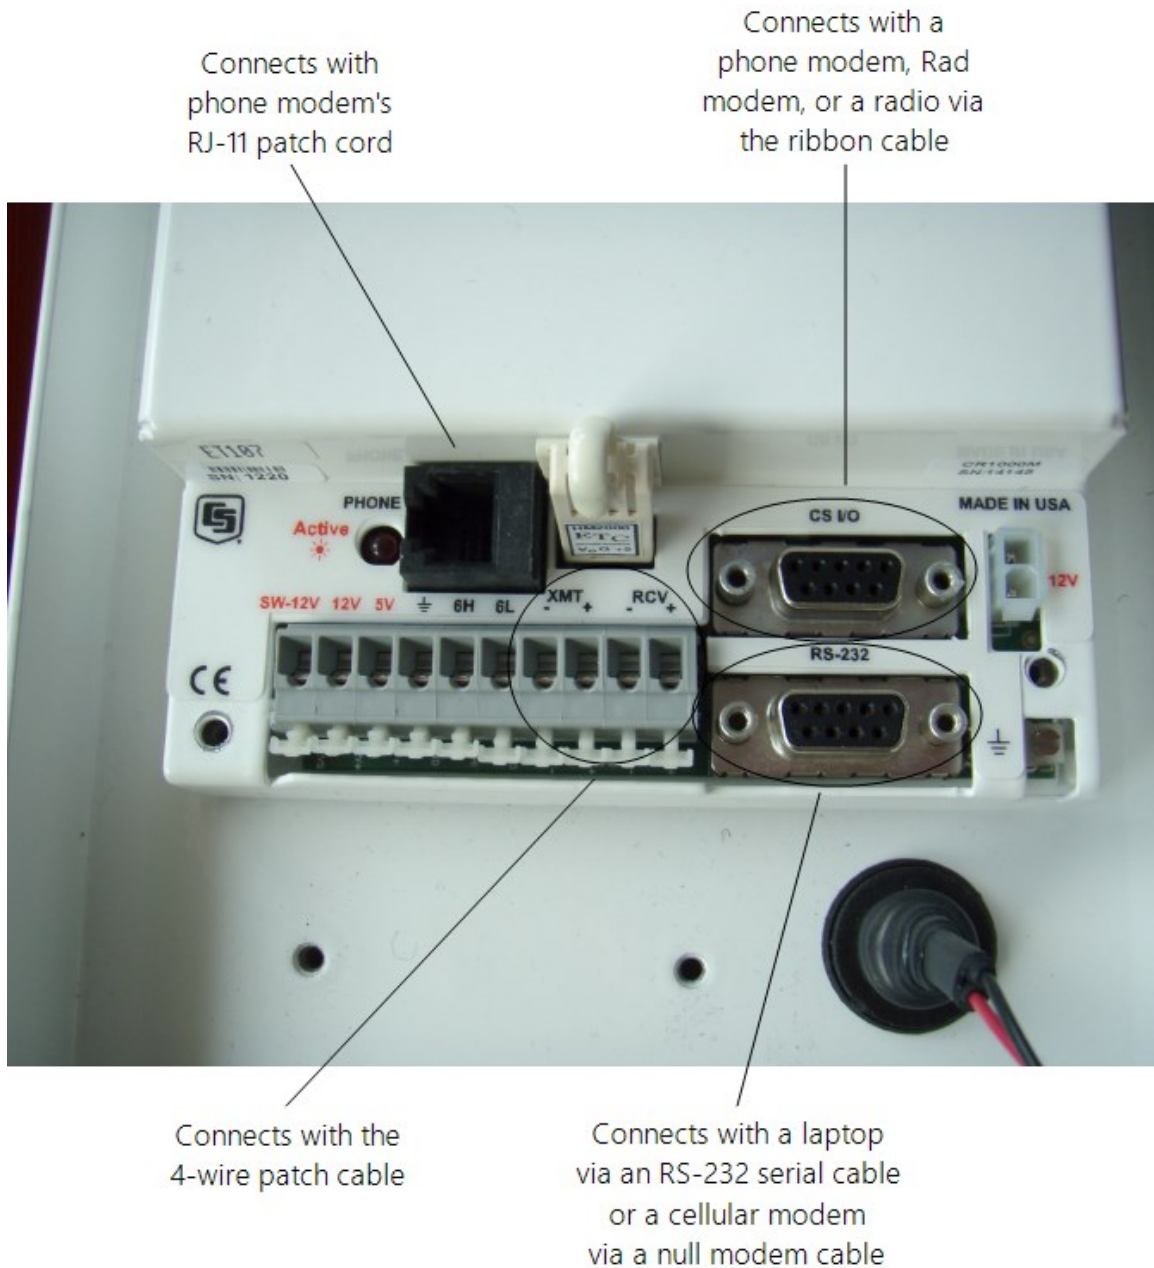
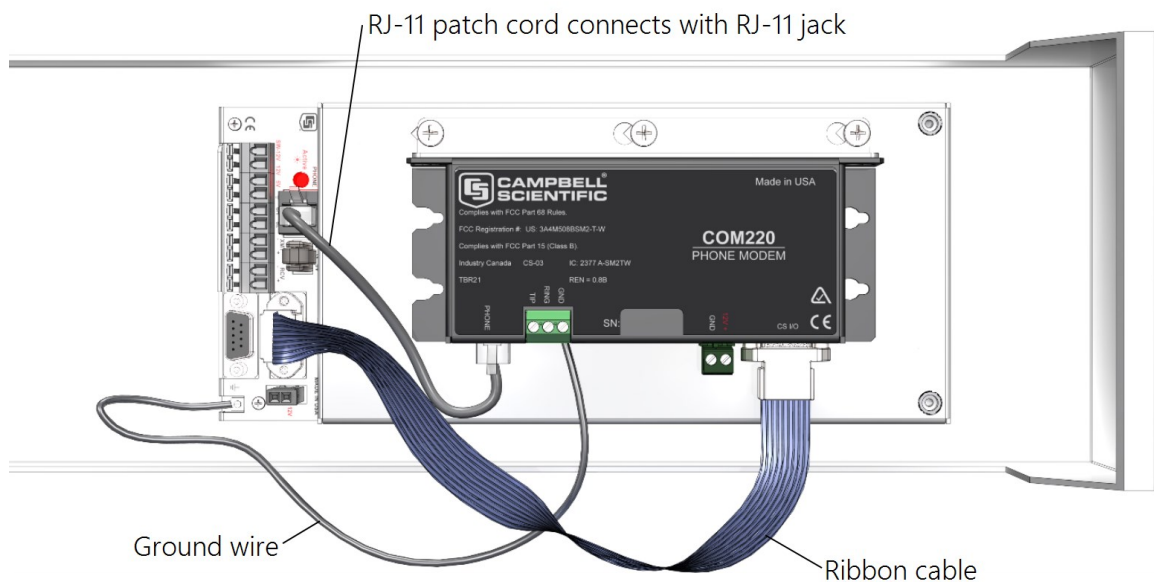

FIGURE 6-22. Close-up of the terminals and 9-pin ports in the ET107 (battery not shown)
FIGURE 6-23. Phone modem mounting and connections (battery not shown)
The ET107 station does not require an interface device for direct RS-232 communications. The inside of the enclosure has a RS-232 and CS I/O port available for communications (see FIGURE 6-22 (p. 37)). Most standard communications options use the CS I/O port leaving the RS-232 port free for direct communications with a laptop or desktop computer using a standard RS-232 serial cable. The data logger used in the ET107 station can communicate with more than one device at a time allowing troubleshooting to be done in the field with a laptop computer while remote communications devices are accessing the station.
Use the following procedure to install the phone modem (FIGURE 6-23 (p. 38)).
2. Connect the modem 9-pin port to the enclosure CS I/O port with the ribbon cable supplied with the enclosure (FIGURE 6-22 (p. 37), FIGURE 6-23 (p. 38)).
3. Connect the modem RJ-11 jack to the enclosure RJ-11 jack with the RJ-11 patch cord (FIGURE 6-23 (p. 38)).